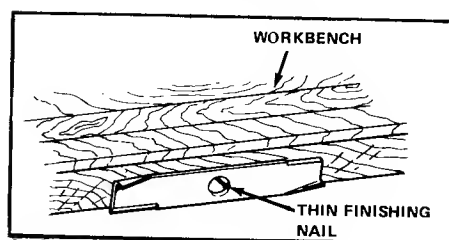

Figure 14. Balance Blade
5. Balance the blade as shown in figure 14. Center the blade's center hole on a nail lubricated with a drop of oil. A balanced blade will remain level.